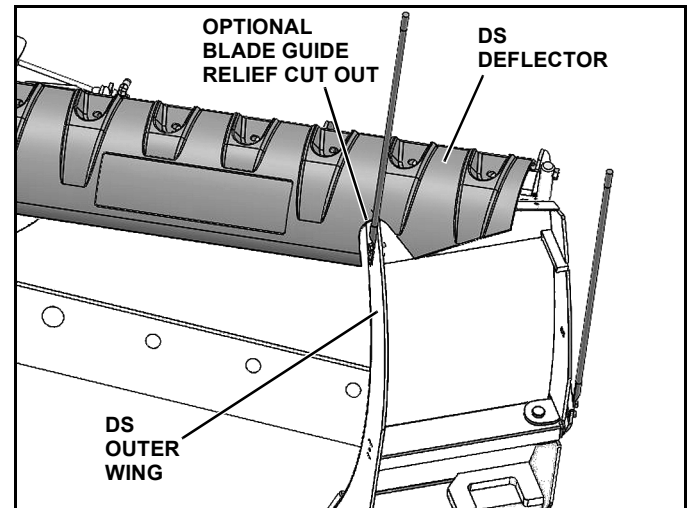

Figure 8 (Driver Side Shown)
- If the optional blade guide cut out relief is used, extend outer wing and verify correct installation of deflector. (See Figure 8.)